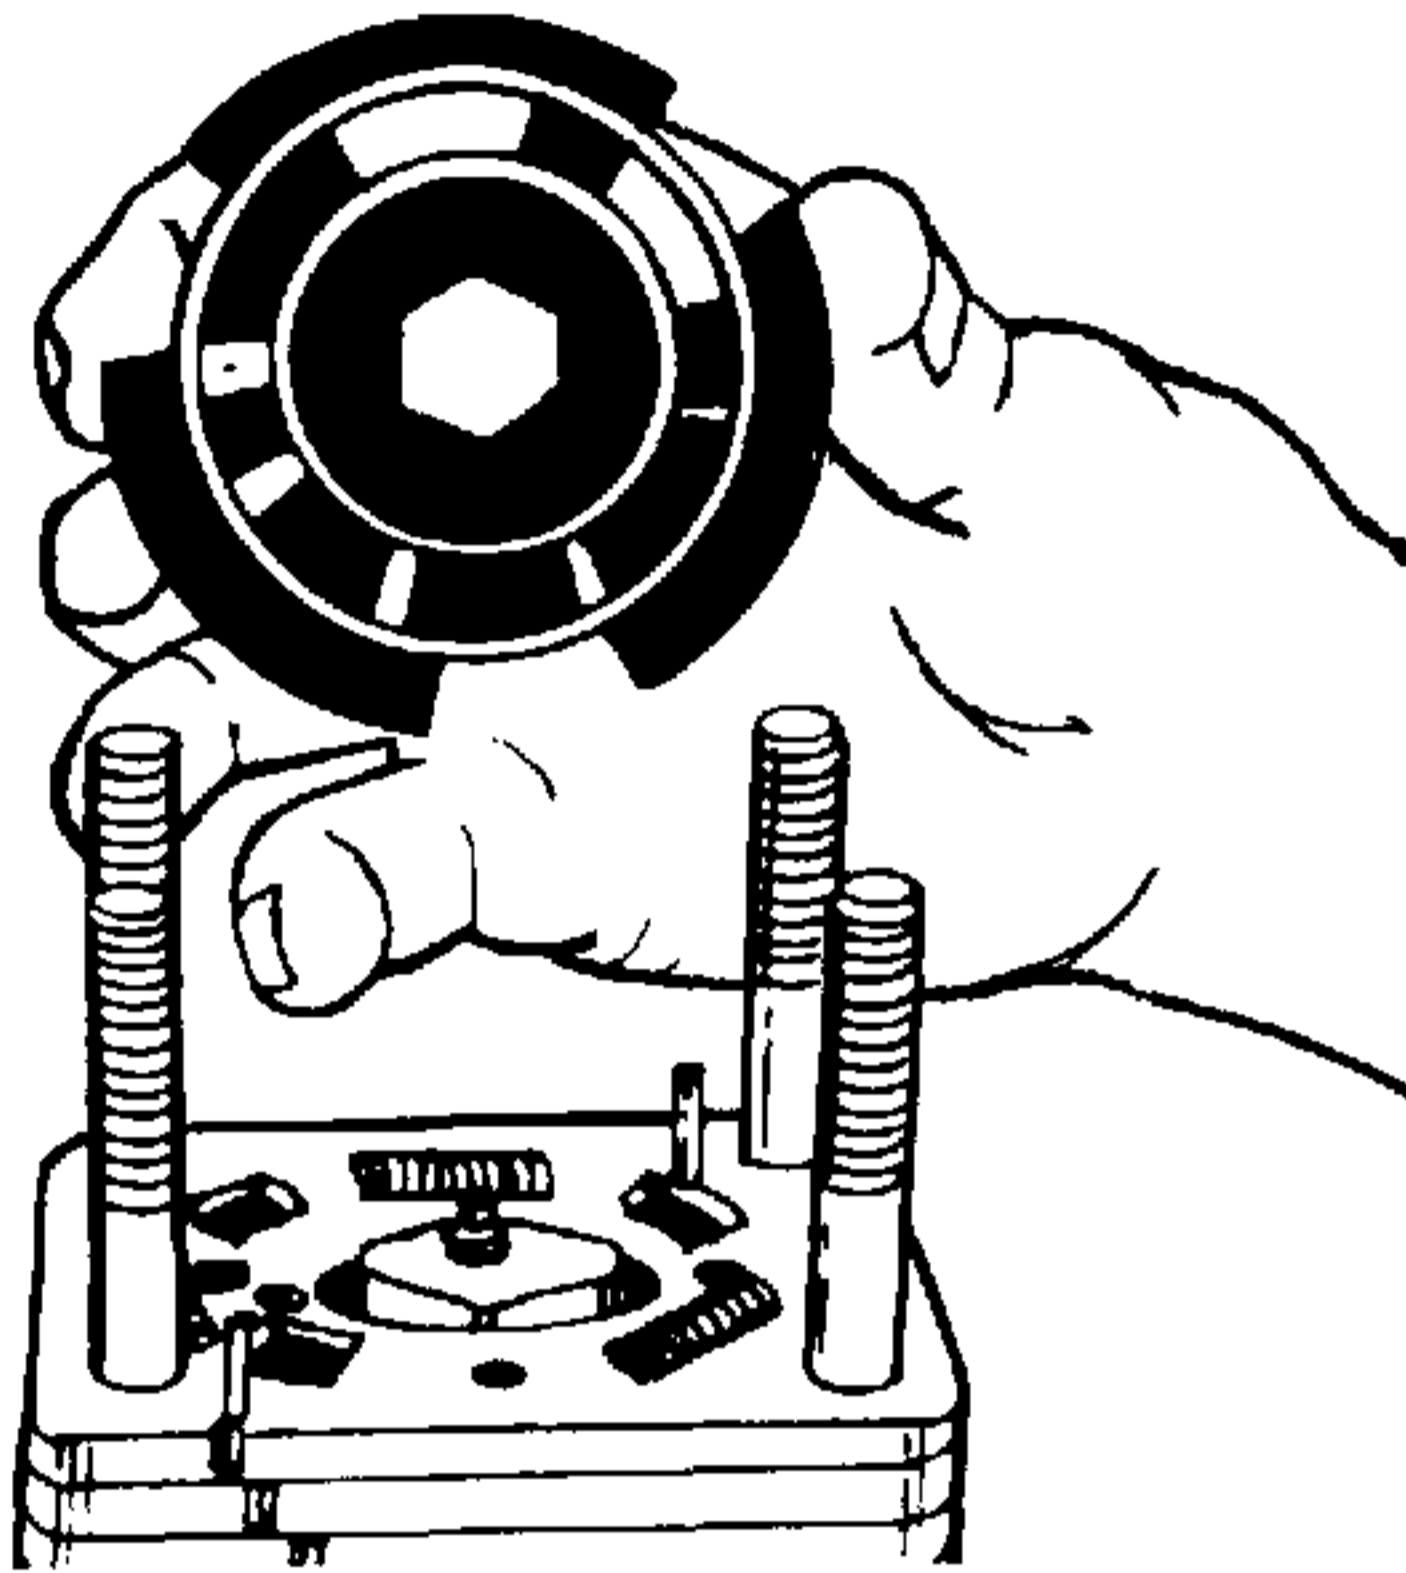

Figure 4-13. Inspecting Valve Plates.
12. Inspect the slot edges and ground surfaces of the valve plate (15). If the valve plate shows nicks or scoring or the edges are not sharp, it must be replaced. See Figure 4-13.